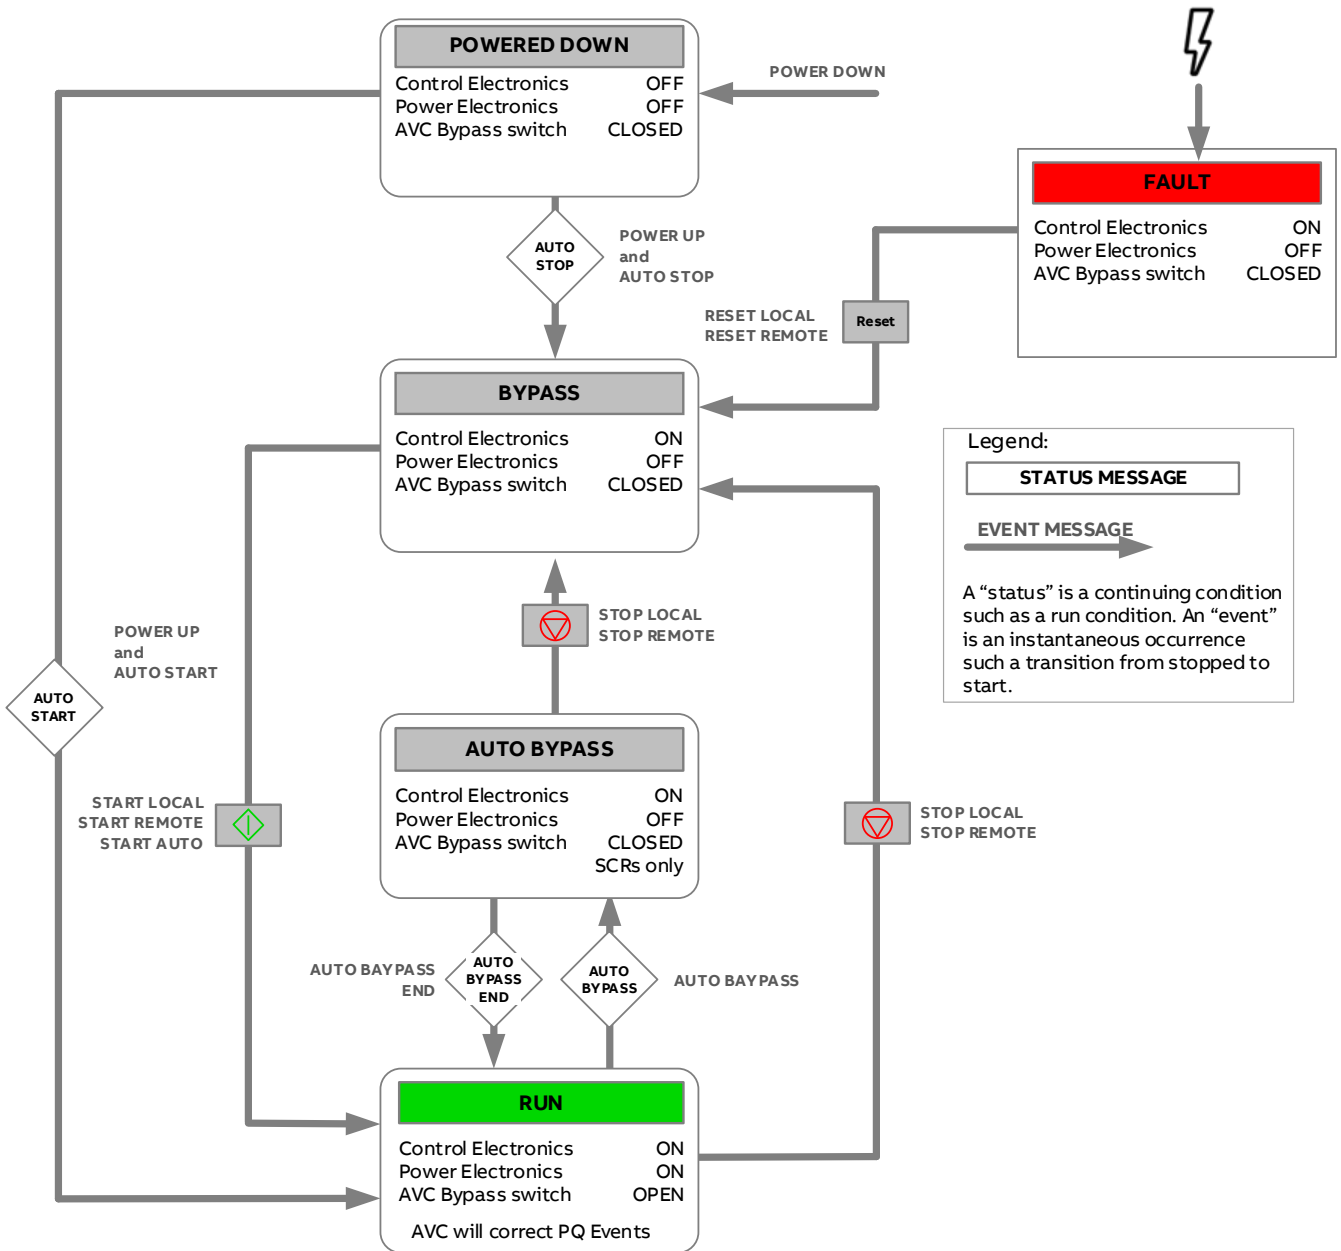

Figure 6-6: PCS100 AVC-40 state flow diagram.
1. PCS100 AVC-40 Status: Refer to Table 6-2 for a complete list of status messages. See also Figure 6-6: PCS100 AVC-40 state flow
Color of status bar depends on PCS100 AVC-40 status. Table 6-4 shows all PCS100 status messages. Figure 6-6 shows PCS100 AVC-40 state flow diagram.